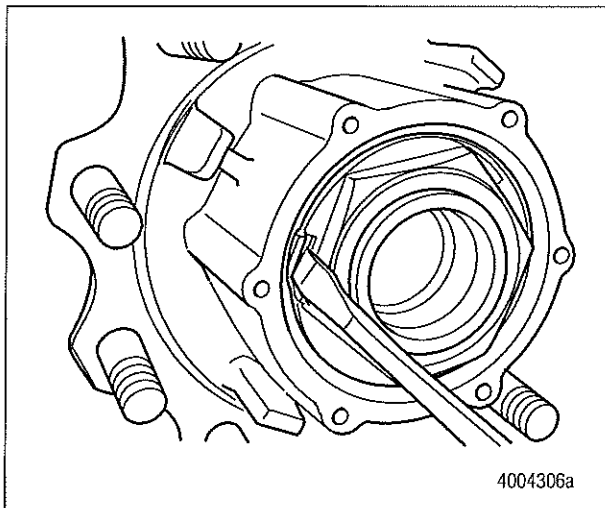

Figure 5
7. Use a small chisel or screwdriver to lever back the retaining washer flange from where it was staked to the spindle nut slots. The retaining washer flange must be completely clear of the spindle nut flange. Figure 5.